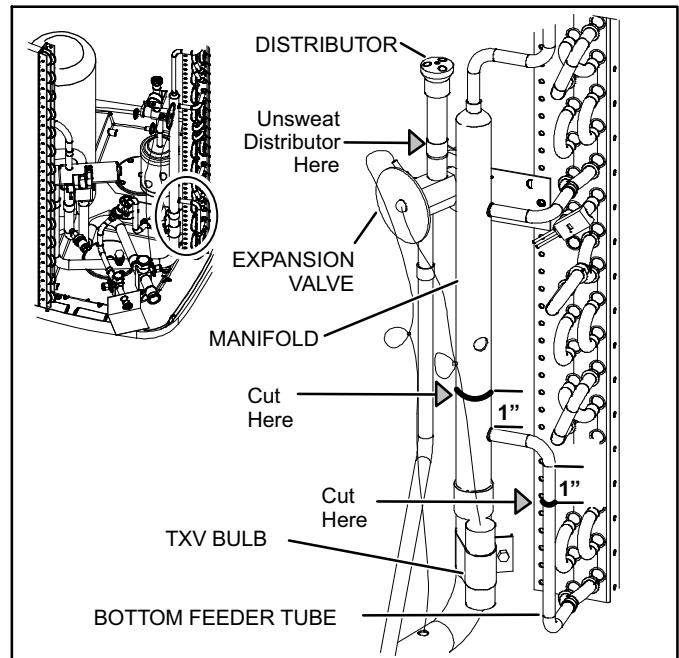
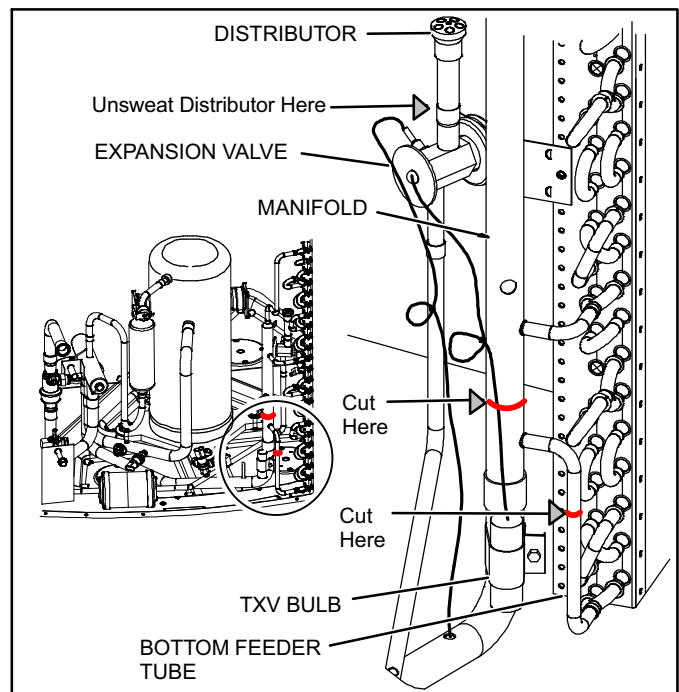

Figure 2. Coil Cut Locations - Most Models
Figure 3. Coil Cut Locations - XP15/XP19
5. Figure 2 is a typical internal view of the most models. Figure 3 is a typical internal view of XP15 AND XP19 models. The circled area in the diagrams identify where the following cuts will be made.